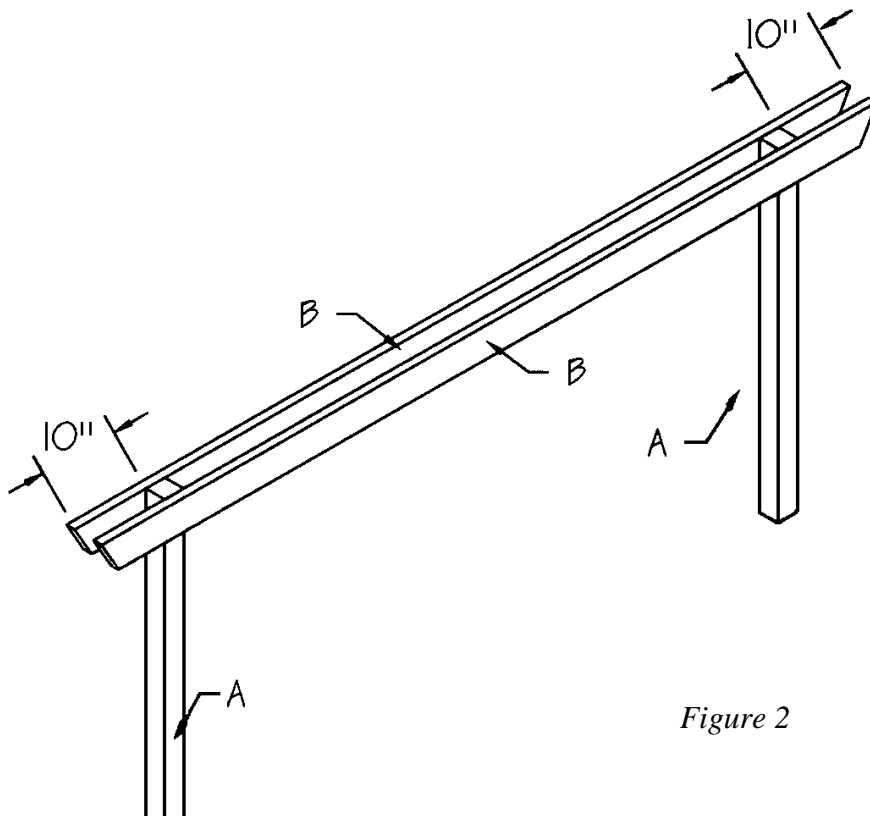

Figure 2
4. This step requires the use of two ladders or two really tall people. Mark the distance to the required height to match the shingled edge of your roof from the ground or deck. Place one roof support (B) over one side of the Posts (A), as shown in *Figure 2*. Screw through the Roof Support (B) into the Posts (A). Temporarily hold the pieces together with two 2-1/2" wood screws in each post. Then install one 3-1/2" lag bolt on each Post (A).
5. Repeat Step 4 to attach the remaining Roof support (B) to the other side of the Posts (A). This will sandwich the two Posts (A) between the two Roof Supports (B).